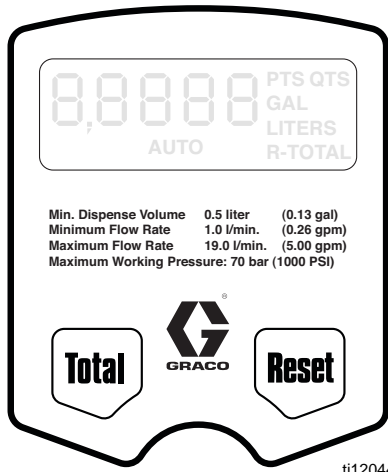

FIG. 12
Setup Menus (FIG. 12)
1. If the display is blank (asleep), wake it up by pressing any button on the keypad (FIG. 12).
2. Press and hold the Total and Reset buttons simultaneously for approximately six (6) seconds to enter the Setup Menu (FIG. 12).